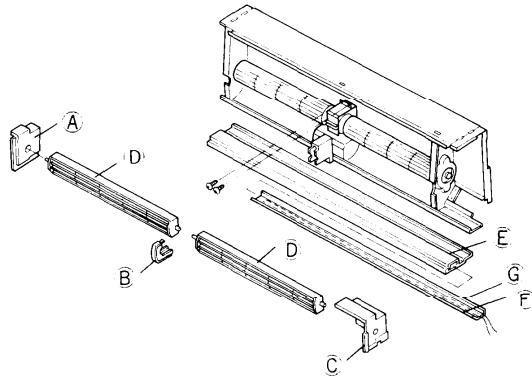

Fig. D-5
- 1) Remove the blade mounting parts (A), (B) and (C) and pull the blade (D) out.
- 2) Remove the bottom plate. (See Figure D-5.)